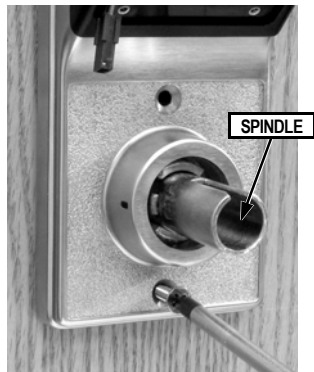

FIG. 15: TIGHTEN THRU-BOLTS
4. Place inside housing over the spindle (see Fig. 15). Depress the lever catch (use a screwdriver pointed inside the spindle) and push housing flush against door. Be sure that all wires are through the housing before tightening the two 10-32 x 2 1/4" thru-bolts.